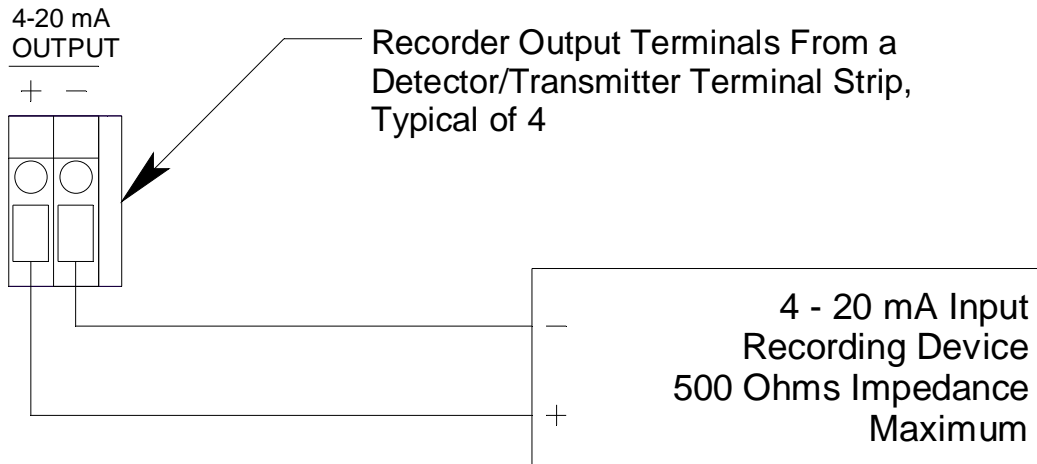

Figure 14: Recorder Output Wiring
- Connect the leads from the recording device to the recorder output terminals of the selected active channels as shown in Figure 14 below.